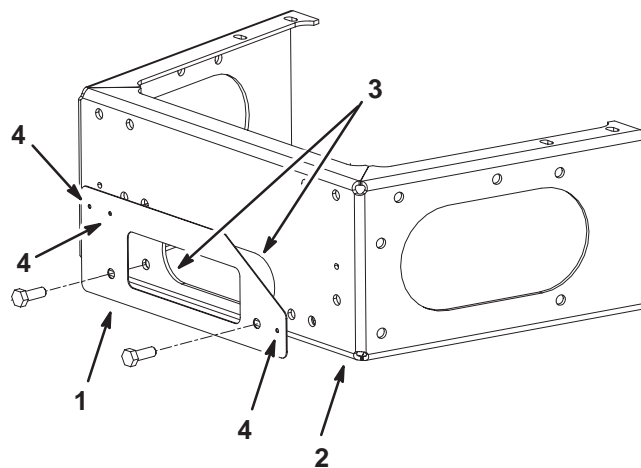

Figure 8
1. Check if there is a large opening in the rear bumper. (Fig. 8). If there is no large opening, proceed to next step.
2. Using the two large holes in the template, temporarily install the template to the rear bumper of the mower with 2 bolts (5/16 x 7/8 inch) and 2 nuts (5/16 inch), supplied with kit (Fig. 8).
3. Mark and center punch the 3 holes to be drilled (Fig. 8).
4. Mark the outline of the large opening in the template (Fig. 8).
7. Cut out the large opening marked on the rear bumper (Fig. 8). This opening is needed to allow the bagger belt to pass through the rear bumper.